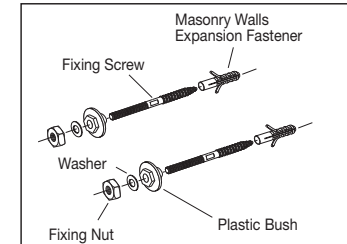

Fig. 2
- 3- Insert expansion fasteners into the drilled holes in masonry wall. The Fixing Screws, should be screwed into the wall using the flat section of the Fixing Screw, with a spanner as shown in **Fig. 2**. Allow 48 mm of thread to protrude from the finished wall.